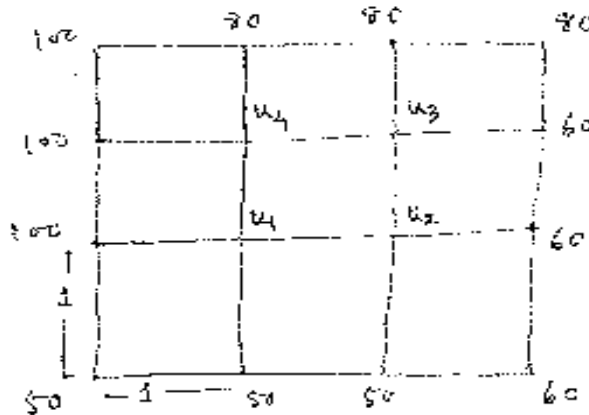

Fig. 11(a)
11. a) Solve the Laplace equation $\frac{\partial^2 u}{\partial x^2} + \frac{\partial^2 u}{\partial y^2} = 0$ at the pivotal points of the grid shown in the figure 11(a).